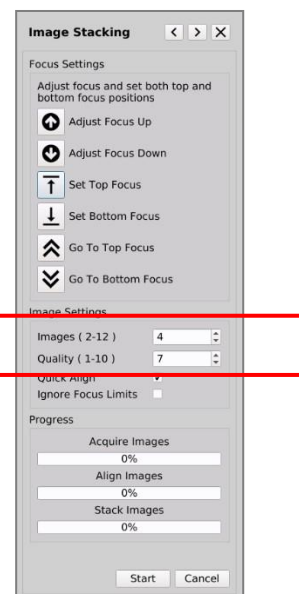

Fig. 22
6. For better image quality you can increase the number of images taken in the stack and/or you can increase the quality (Fig.22). Doing so will increase the time taken to process the image stack and will also increase the file size of the image.